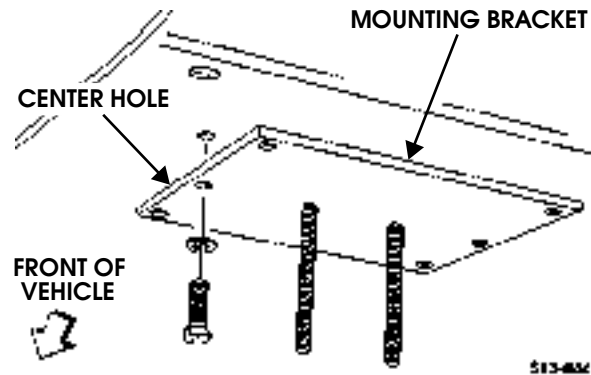

Figure 13-52: Rear Mounting Bracket
- Remove two bolts, lockwashers, and rear mounting bracket from rocker panel protection and body (Figure 13-52).
- Install rear mounting bracket on rocker panel protection and body with two lockwashers and bolts. Tighten bolts to 29-31 lb-ft (39-42 N•m) (Figure 13-52).